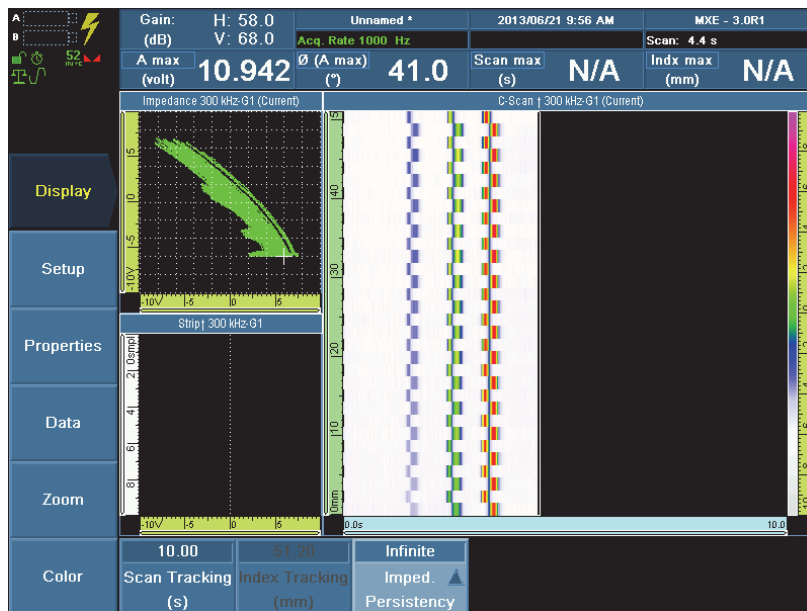

Figure 3-10 The increased phase shift viewed with an added C-scan view
- Select **Display > Setup > Acquisition = CSI C-Scan, Strip Chart, and Impedance Plane**, and then press the Accept key to confirm (see Figure 3-10 on page 51).